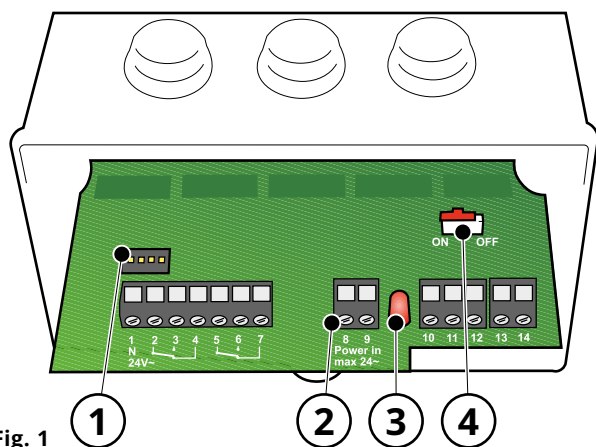

Fig. 1
Controlling time delay to evacuate remaining gases is built into the control unit (1, **Fig. 1**). Time is adjustable from between 0-15 minutes.
To activate / deactivate timer adjust the switch (4, **Fig. 1**). If timer is placed in ON mode this will enable adjustments of time delay on the switch panel (1) as illustrated below.